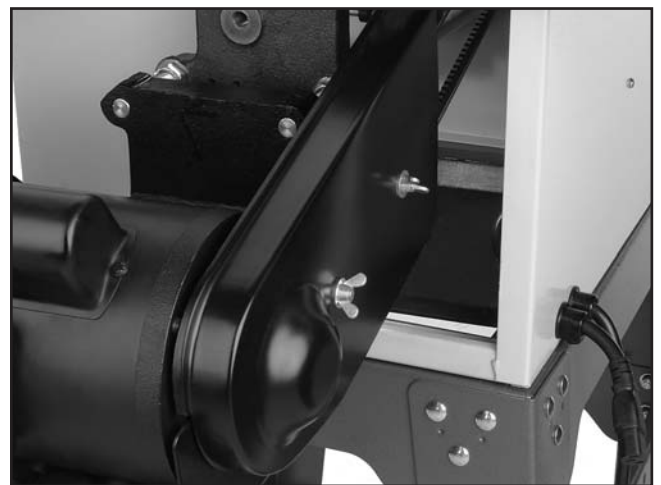

Figure 20. Installed pulley cover.
12. Secure the V-belt guard to the V-belt plate with the brass wing nuts, $\frac{5}{16}$ " flat washers and the fiber washers (**Figure 20**).